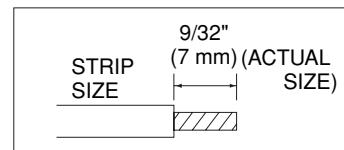

Fig. 26
- (1) Cut the wire end with a cutting pliers, then strip the insulation to expose the wire about $9/32"$ (7 mm). See the label (Fig. 26) near the terminal plate.
- (2) Using a screwdriver, loosen the terminal screw on the terminal plate.
- (3) Insert the wire and tighten the terminal screw completely using a screwdriver.